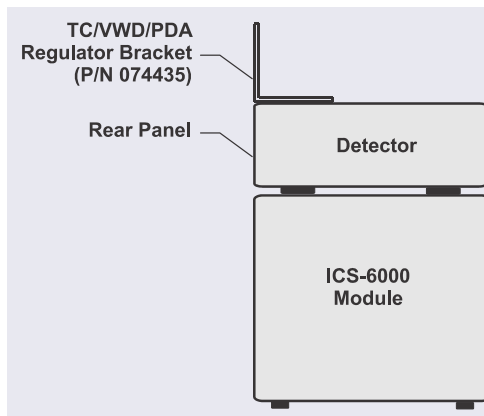

Figure A-1. TC/VWD/PDA Regulator Bracket Orientation
1. Place one leg of the regulator bracket on top of the detector. Orient the bracket as shown in Figure A-1.